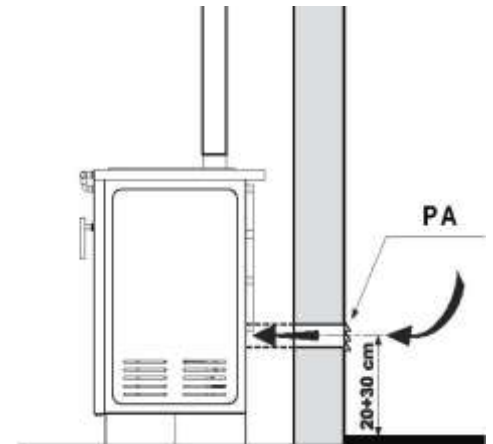

Figure 4
- The outside air can be supplied directly through a tube of 80 mm diameter with a seal (Figure 4).